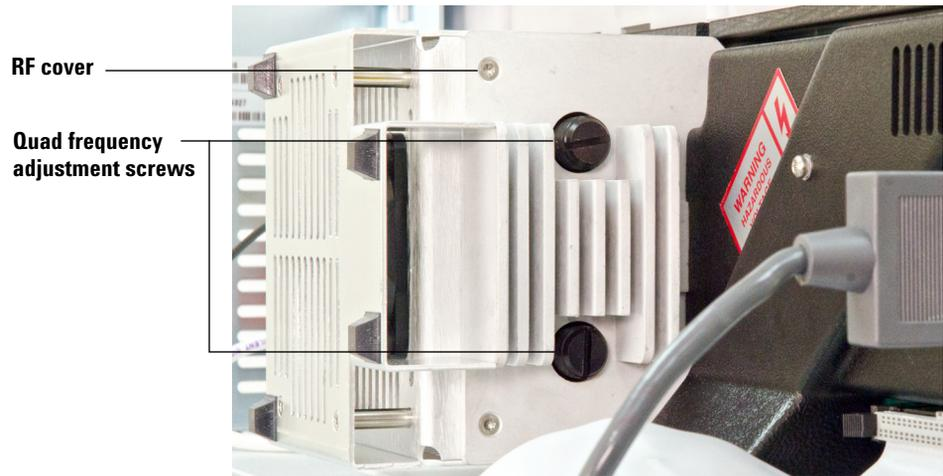

Figure 20 Adjusting the quad frequency
- 6 Slowly turn the quad frequency adjustment screws to minimize the voltage displayed (See Figure 20 on page 135).